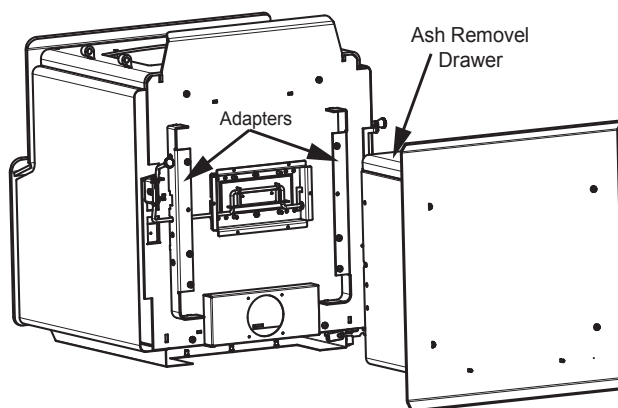

Figure 17.3
2. Slide pedestal over adapter on bottom of appliance and secure with four screws using Phillips head screwdriver (**Figure 17.3**).